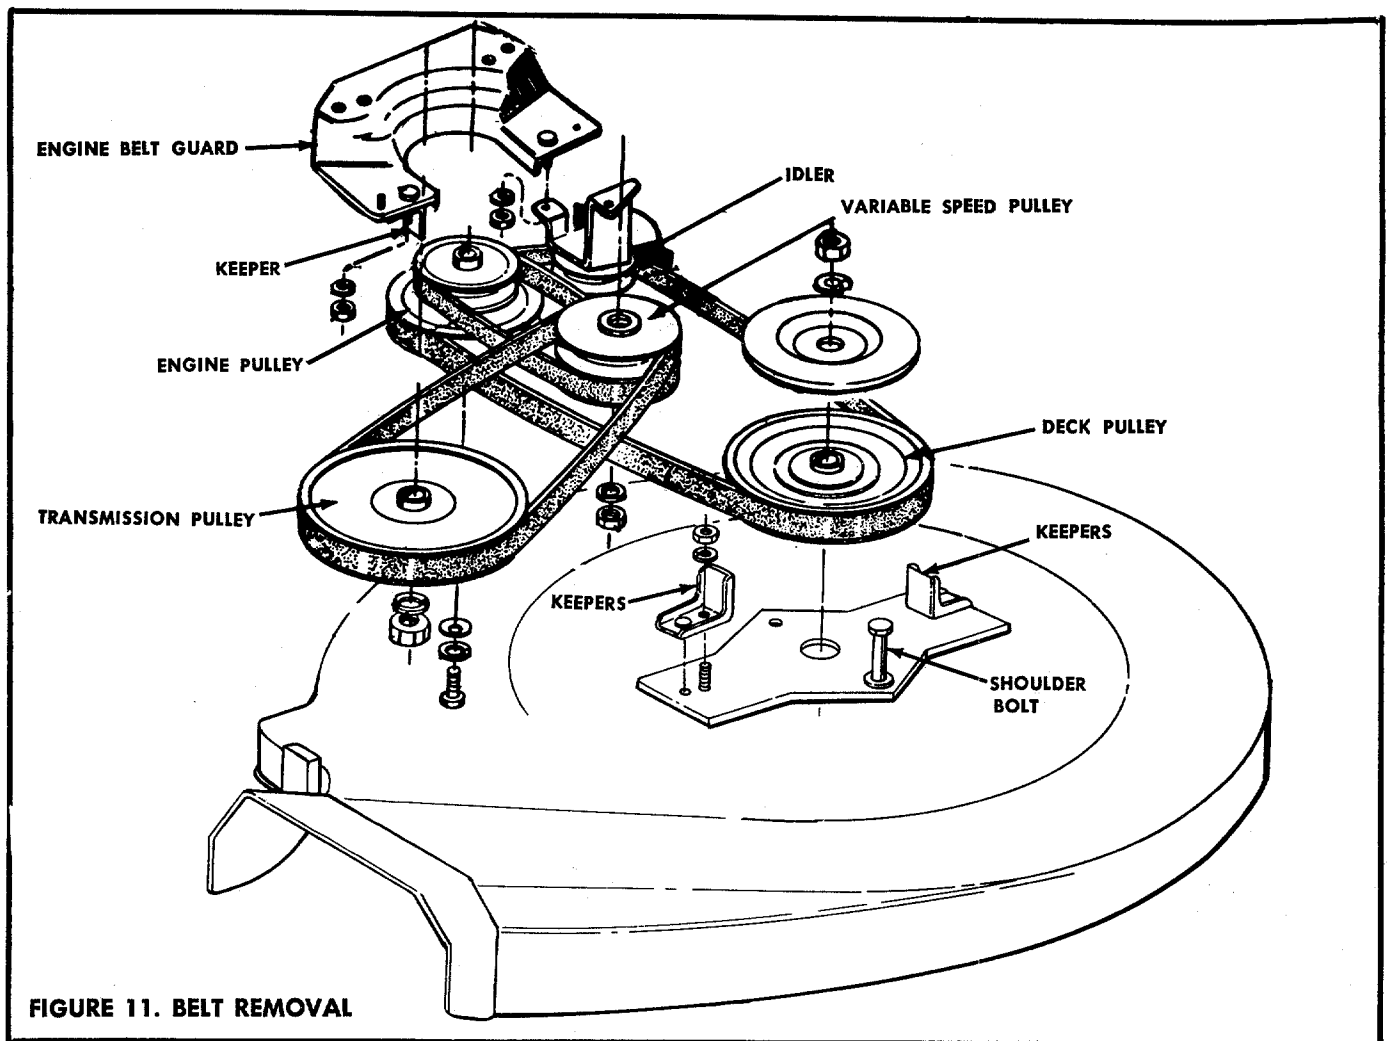

FIGURE 11. BELT REMOVAL
**BELT REMOVAL See figure 11.**